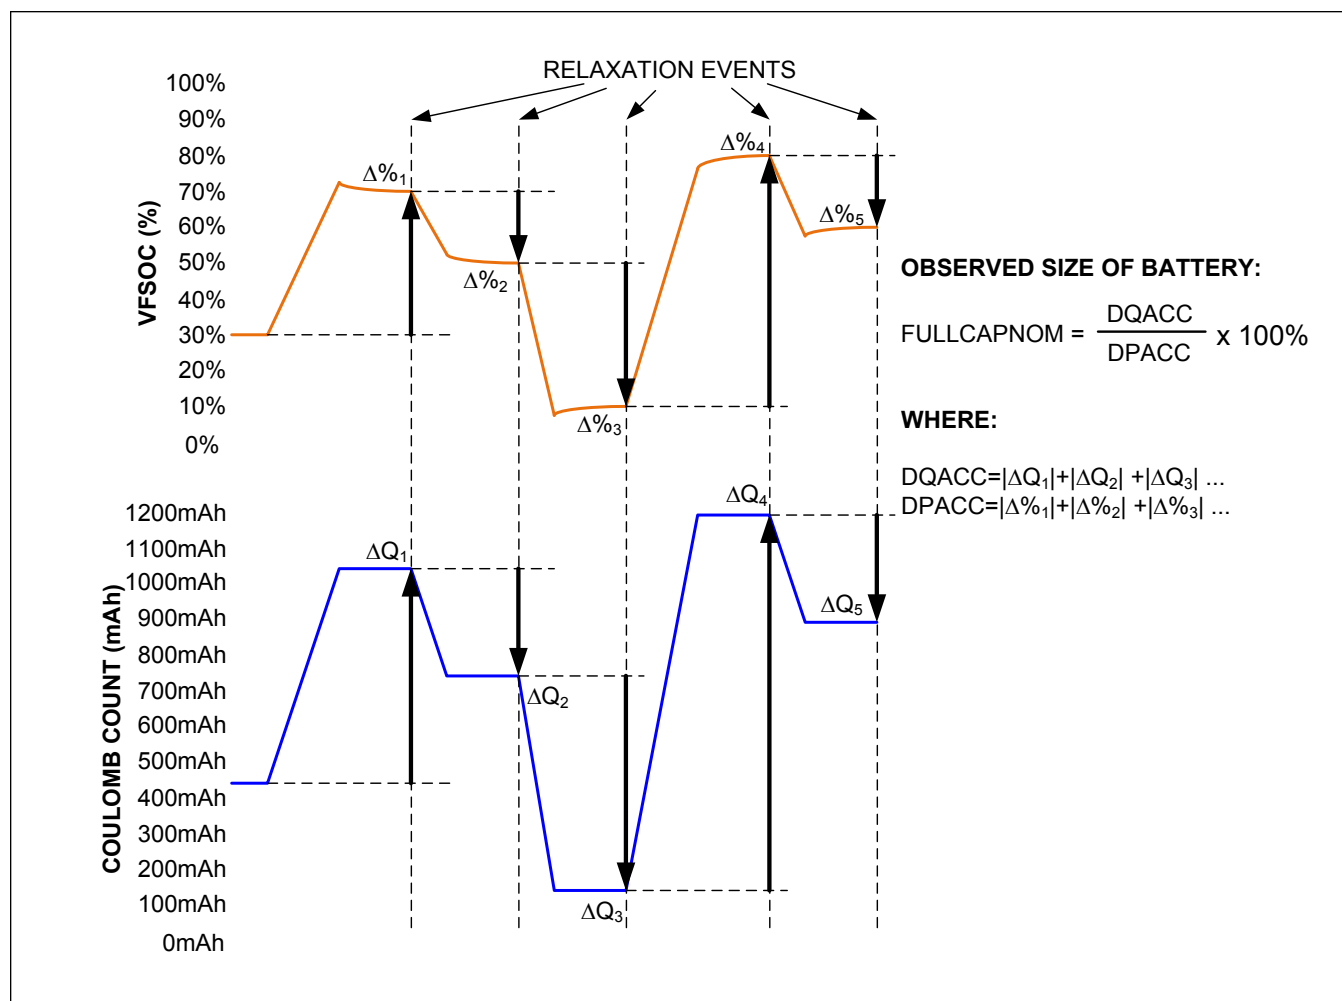

Figure 20. FullCapNom Learning
- **Cell Capacity (FullCapNom Register):** This is the total cell capacity at full, according to the voltage fuel gauge. This includes some capacity that is not available to the application at high loads and/or low temperature. The IC periodically compares percent change based on an open circuit voltage measurement verses coulomb-count change as the cell charges and discharges, maintaining an accurate estimation of the pack capacity in milliamp-hours as the pack ages. See Figure 20.